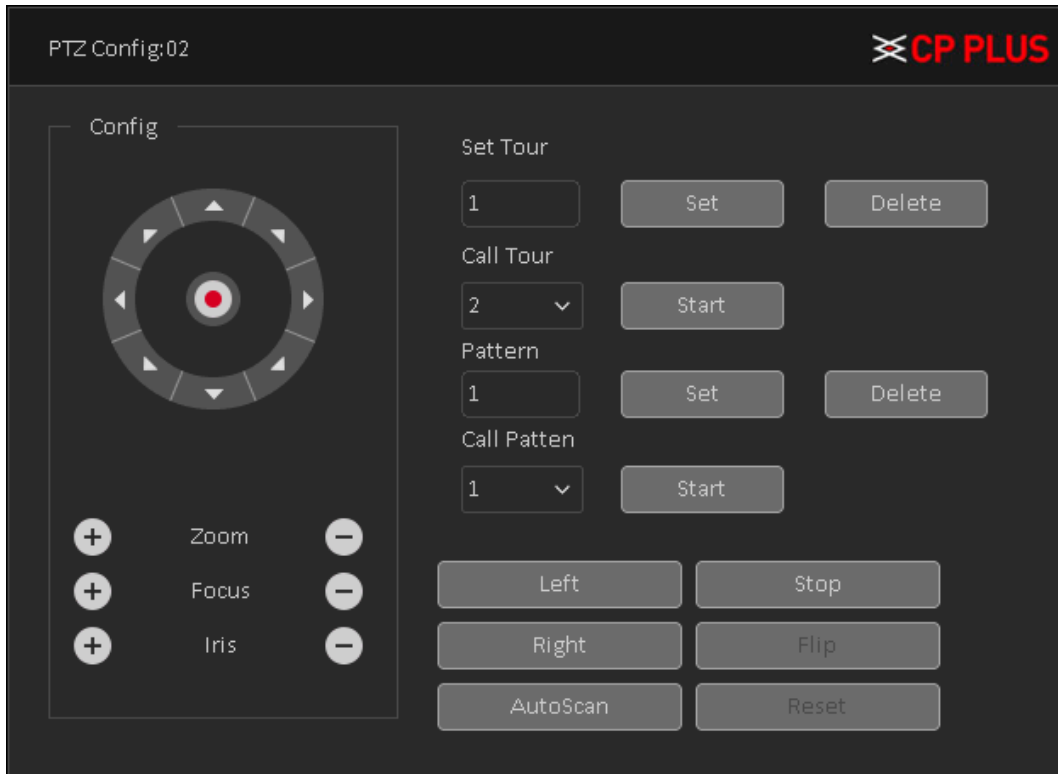

Figure 3.22
- To stop Auto Pan, click on  button. See Figure 3.22